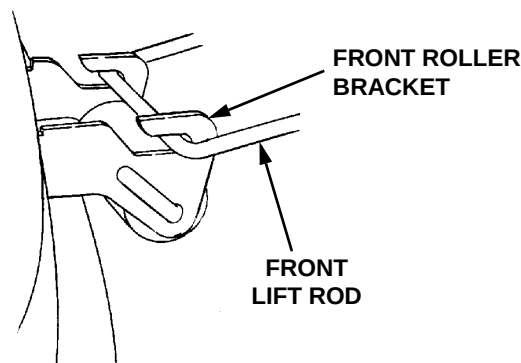

Figure 38
8. While holding the front lift rod up, slide the mower deck forward until the rod aligns with both front roller bracket slots. Lower the lift rod into the front roller bracket slots and slide the deck rearward to engage the lift rod fully forward in the slots of the deck front roller bracket (See Figure 38).